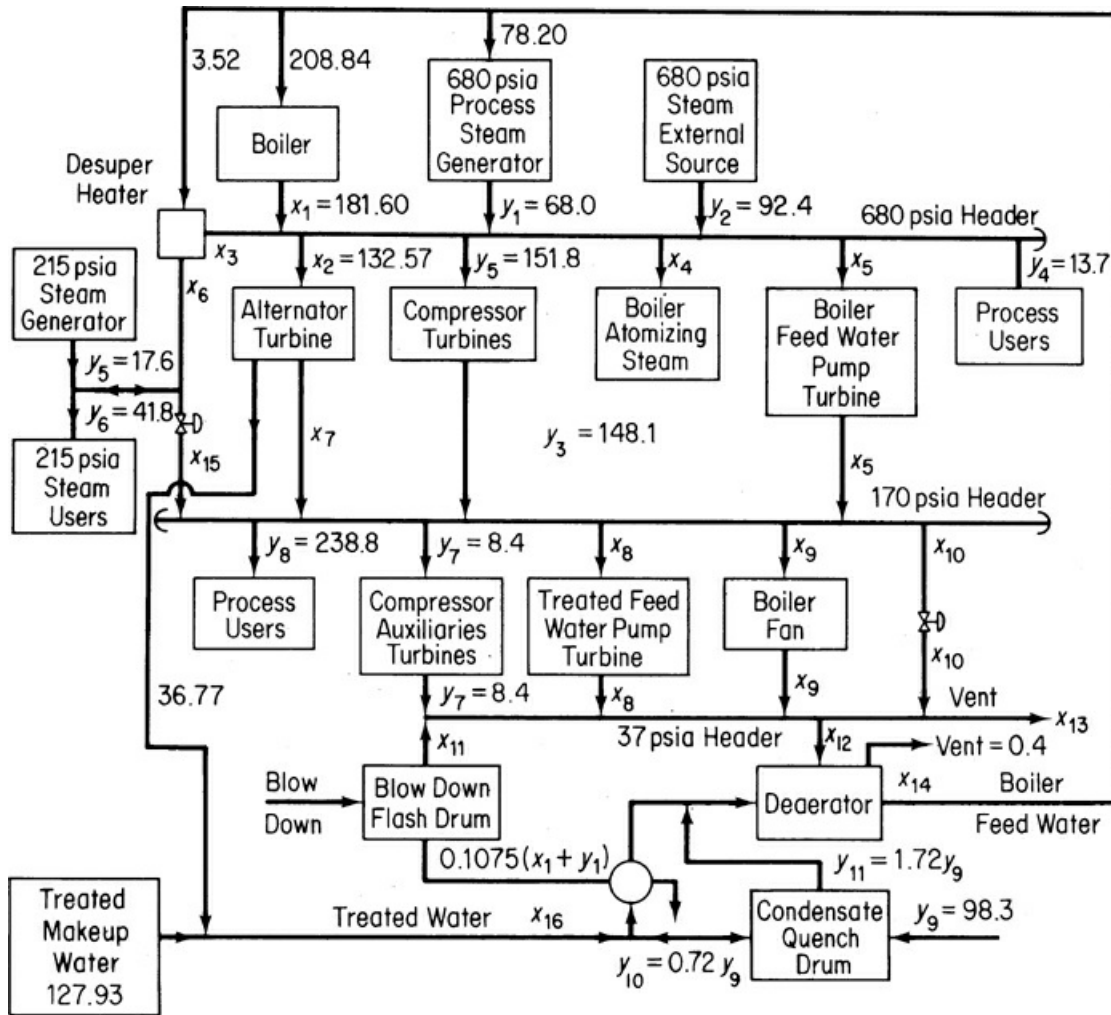

Figure P14.16
14.16 Determine the values of the unknown quantities in Figure P14.16 by solving the following set of linear material and energy balances that represent the steam balance: